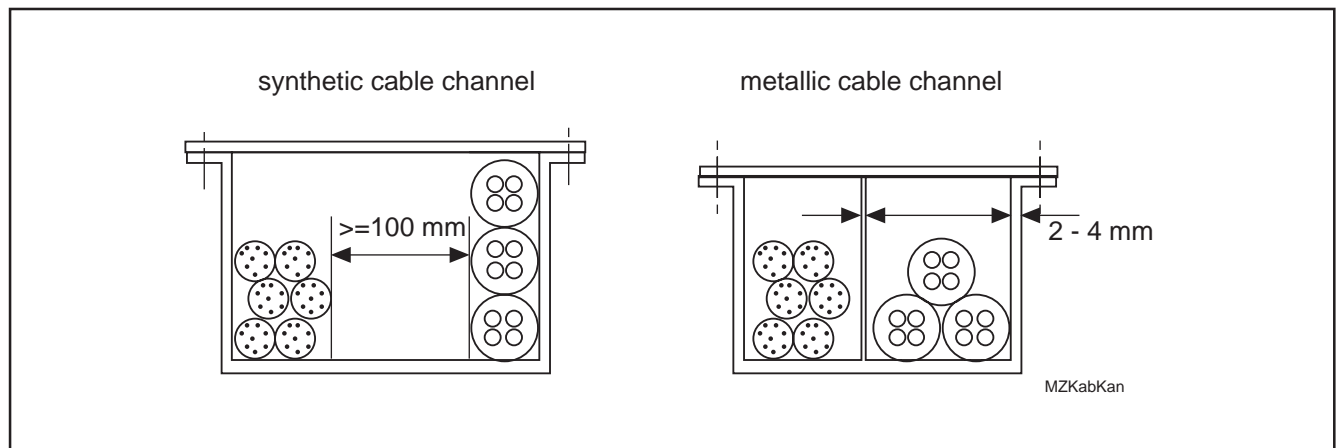

Figure 4.4: Examples of separate and shielded routing of motor power and feedback cables
- Maintain a minimum clearance of 100 mm if feedback and power cables are routed parallel, or use a metallic partition in the power cable (Figure 4.4).